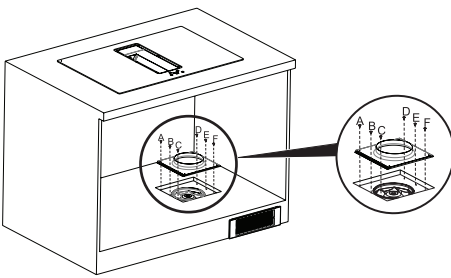

Fig. 28
- 4. Loosen the screws A, B, C, D, E, F at the air extractor connection on the engine (Fig. 28).